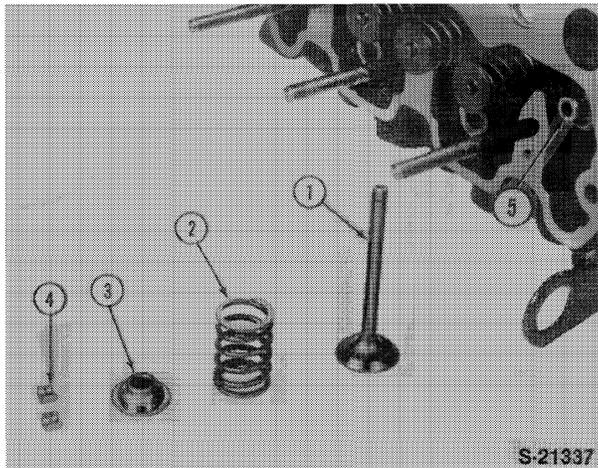

Figure 29
- Use a suitable valve spring compressor and remove the valve spring retainer locks (4), retainers (3) and springs (2), Figure 29.